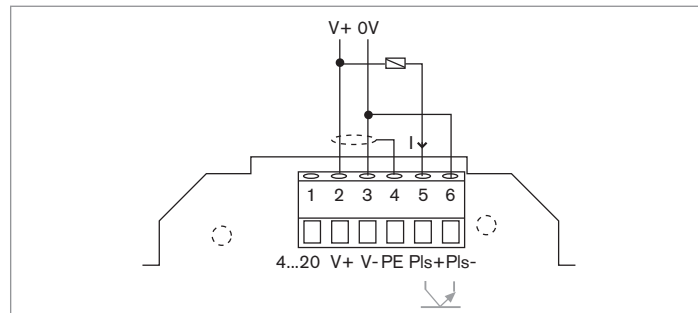

Figure 18: Connection of the frequency output to an electromechanical counter or to a relay
- or to a load such as an electromechanical counter or relay (see Figure 18)